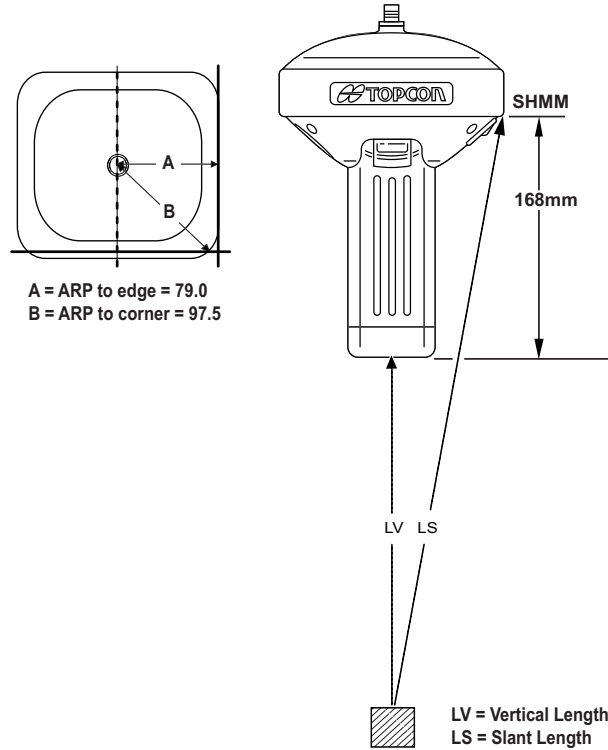

Figure 27: Antenna Height Measurement Points
1. Measure the antenna height above the control point or marker, either the slant height or the vertical height. You may either measure the vertical height to the Antenna Reference Point (ARP) located at the bottom of the receiver at the base of the mounting threads, or measure the slant height to the Slant Height Measurement Mark (SHMM) on the side of the receiver. For ARP and SHMM marks on the receiver, see Figure 27.